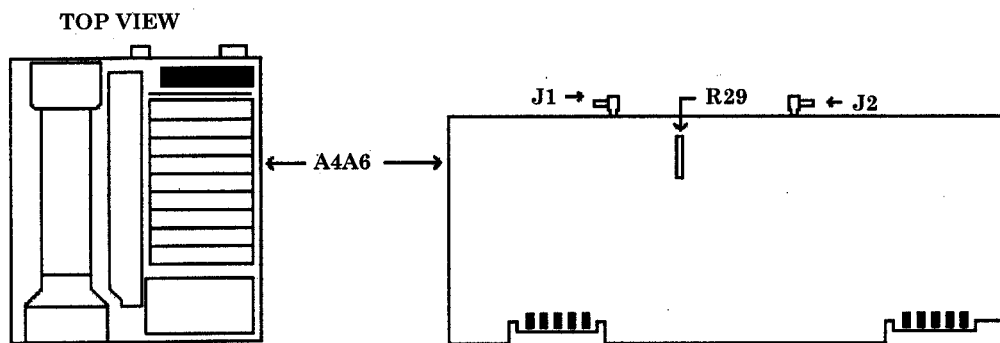

Figure 9. A4A6 board.
- (3) Set TI **LINE** switch to **ON**.
- (4) Press TI keys as listed in (a) through (h) below:
(5) Adjust A4A6R29 (fig. 9) to align markers on TI display. **MKR Δ** level should indicate 1.00X.
- (63) Disconnect 89 (gray/white) cable from A4A6J1 (fig. 9).
- (64) Connect 97 (white/violet) cable to A4A6J1 (fig. 9).